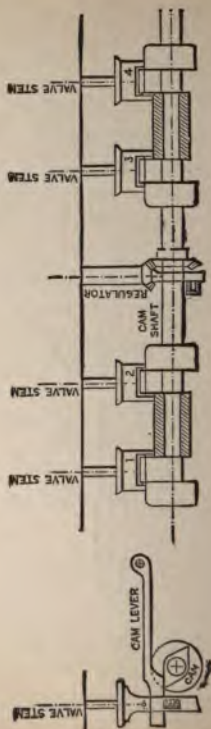

FIG. 132. PUTNAM VALVE GEAR.
A. Before setting the valves, the set screw in the bevel gear on the side shaft (which operates the valve gear) should be screwed up tightly and also the main shaft gear as shown in Fig. 131. The gear *C*, as shown in Fig. 132 on the side shaft, is in the proper position to run the top of the
A. First, steam valve No. 2, then exhaust valve No. 4, then steam valve No. 3, and last, exhaust valve No. 1. See Fig. 132.
A. Beginning at the cam No. 2, make a scratch mark or line on the valve stem (above the cam)  $\frac{1}{16}$  inch below the packing box ; then turn the steam cam No. 2 by hand in the direction shown by the arrow in Fig. 132 until it strikes the lever and raises it and the valve stem  $\frac{1}{16}$  inch as shown by the scratch line. Holding it at that point, tighten and set screw in the cam, hard.